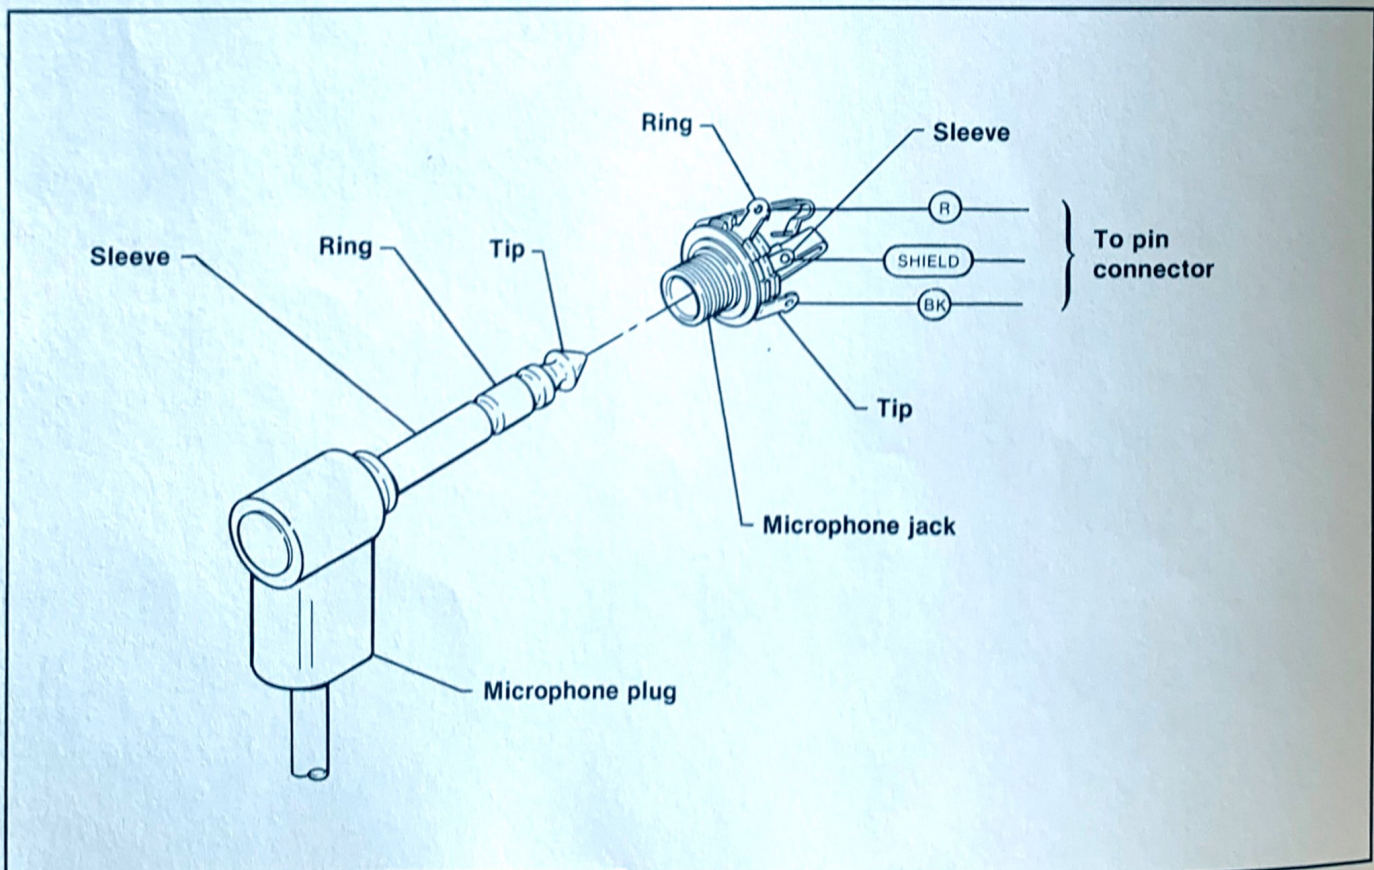

Figure 8-15. Microphone and Jack Connections
1. See Figure 8-15. To verify that Push-To-Talk (PTT) switch is functioning properly, connect probes of ohmmeter to tip and ring of microphone plug.
1. See Figure 8-15. Solder leads to jack terminals as shown.